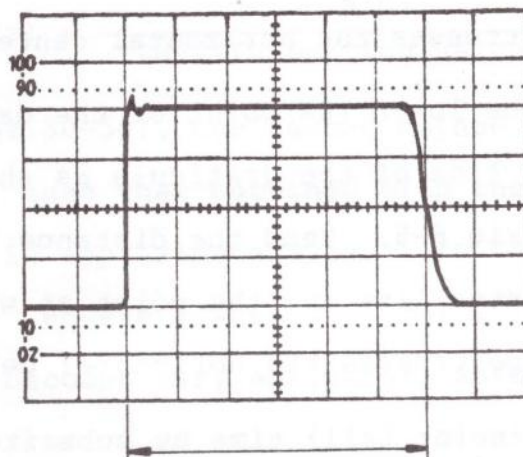

Fig 6-6 Pulsewidth measurement
1. Display the pulse waveform vertically so that the distance between the top part of the pulse waveform and the horizontal center line of the graticule may be equal to the distance between the bottom part of the pulse and the horizontal center line as shown in Fig. 6-6